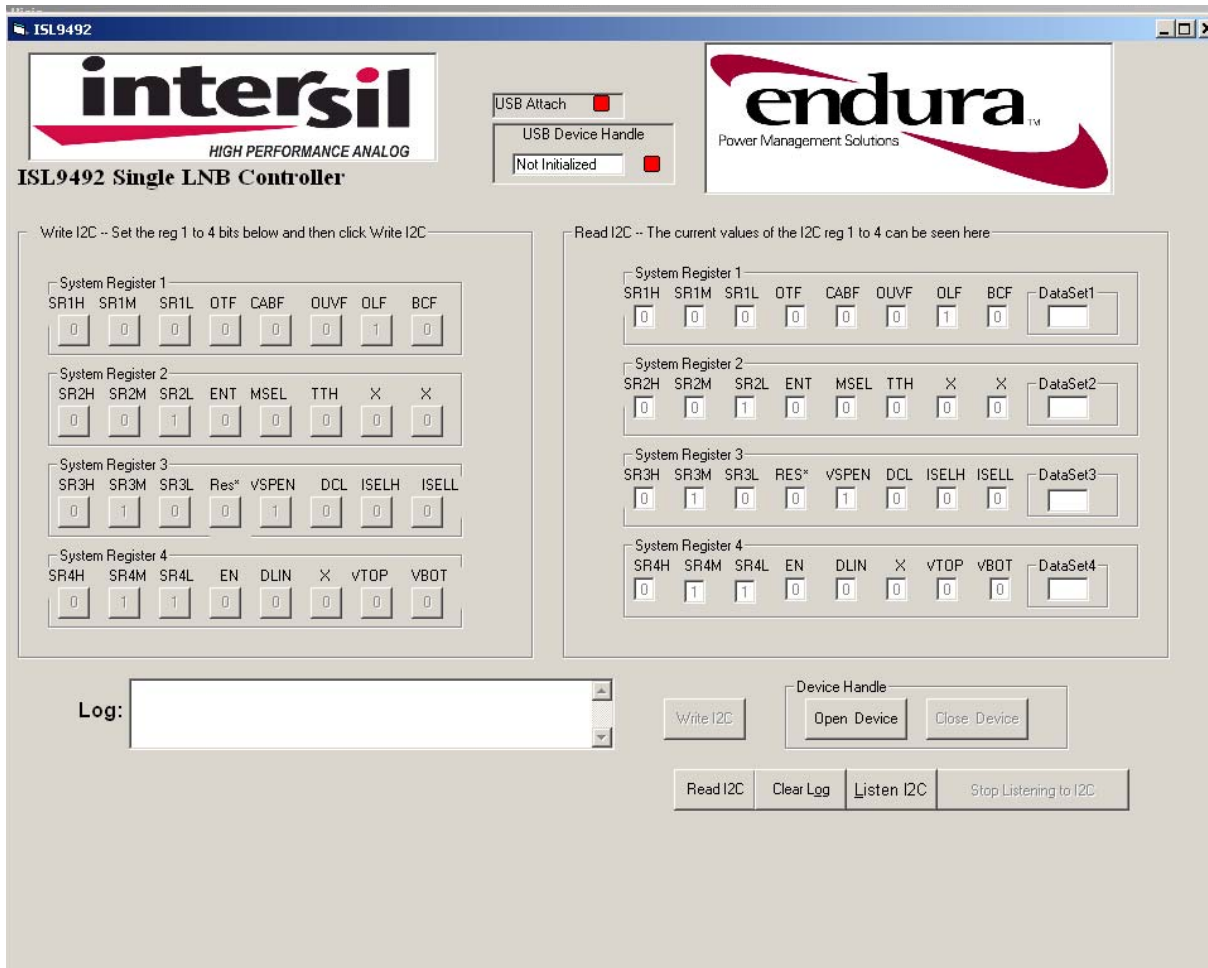

FIGURE 2. LNB CONTROLLER WINDOW
4. Go to Device Select and choose ISL9492 from the dropdown menu. The screen should look like Figure 2.